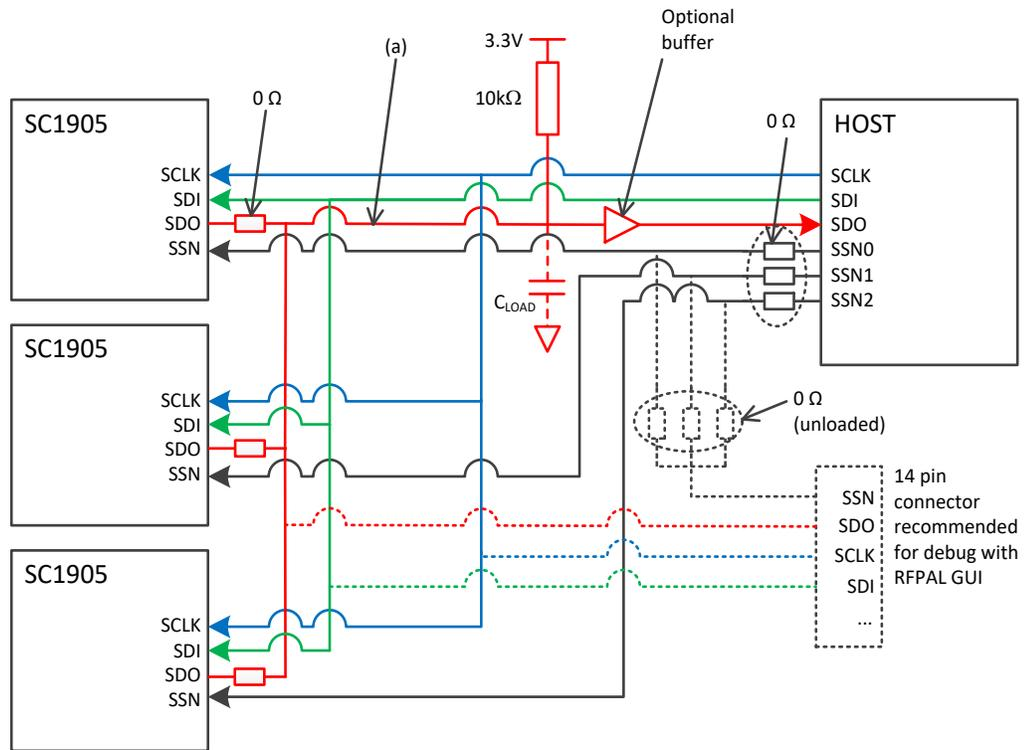

Figure 1: Host SPI Connection for Multiple SC1905 Applications
Figure 1: Host SPI Connection for Multiple SC1905 Applications .....	7
The SPI bus comprises four signals: SCLK, SSN, SDI and SDO. The SC1905 can only be used as a slave and the SPI clock can operate from 50KHz to 4MHz. The SPI bus can be shared with multiple slave devices (including several SC1905's). In this case, each slave must have a distinct Slave Select signal (SSN) from the host controller (see Figure 1). Refer to the SC1905 Hardware Design Guide for additional information.
**IMPORTANT:** It is highly recommended to use a 14-pin connector for debug with the GUI (see Figure 2) GUI only supports one SSN, so it is recommended to add a 0Ω resistor as shown in Figure 1 to be able to debug with the GUI.